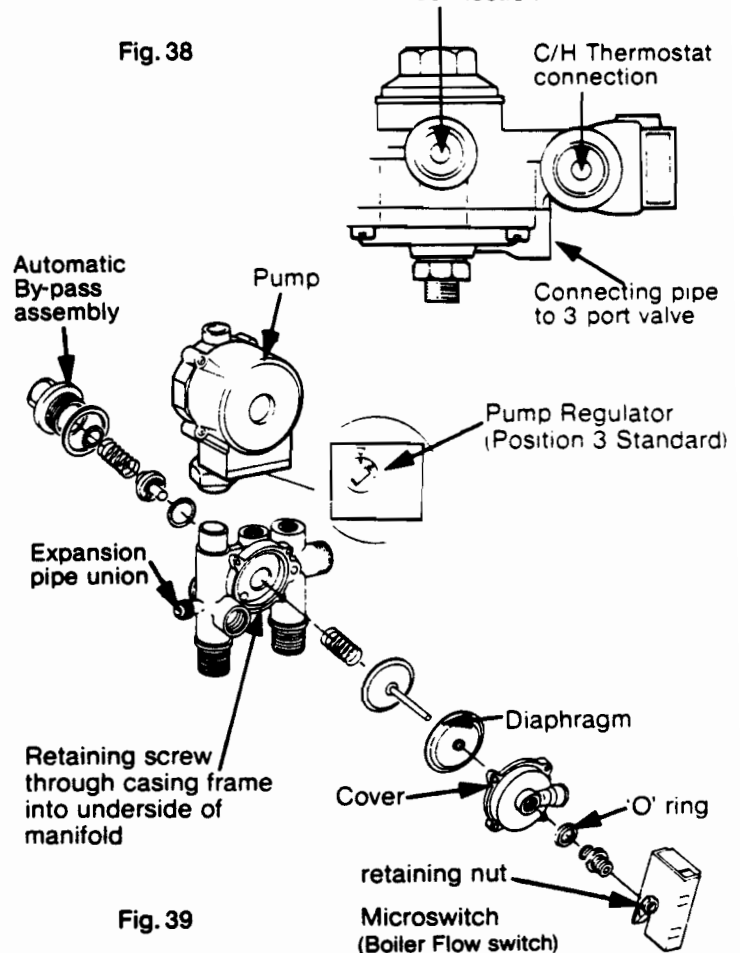

Fig. 39
8.13 To remove heating manifold Part No. 3208 figs 53 or 54 Refer to fig 39
Refer to figs 39 and 53 or 54 for location of components.
Refer to fig 39